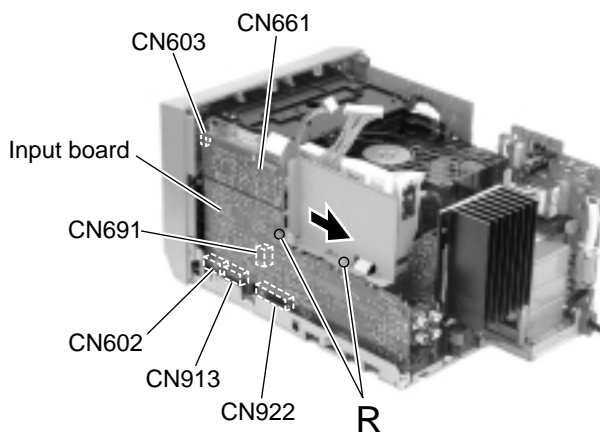

Fig.18
■ Removing the Input board (See Fig.18)